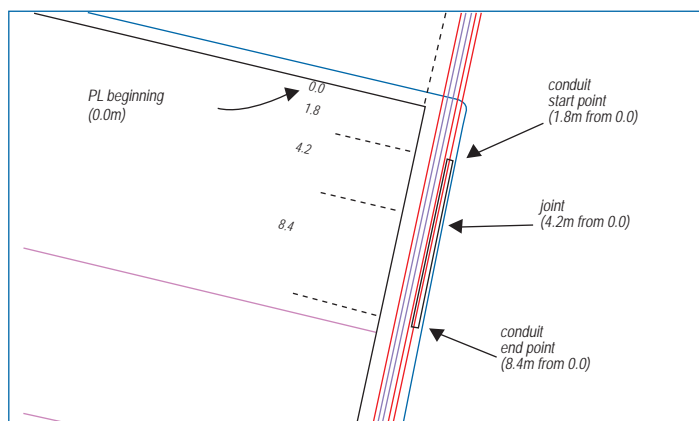

Figure 2
**"datum references"** identify distances (in metres) from significant features (such as corners of property boundaries) to reference points such as Ausgrid assets (eg: **"conduits"**, **"cables"**, **"joints"**). (refer to figure 2)